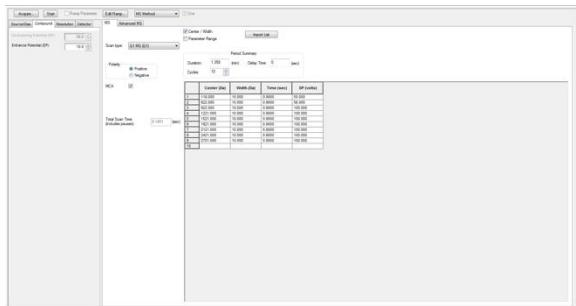

Figure 4: Generic Q1 tune method for Agilent tune mix. Both global and mass specific instrument parameters can be accessed in this method file.
- Double click on the “manual tuning” icon on the left column under “tune and calibrate.” A generic tune window will pop up. See figure 4
- The method is set up as an excel sheet where you can right click and add in columns for declustering potential (DP) and entrance potential (EP)